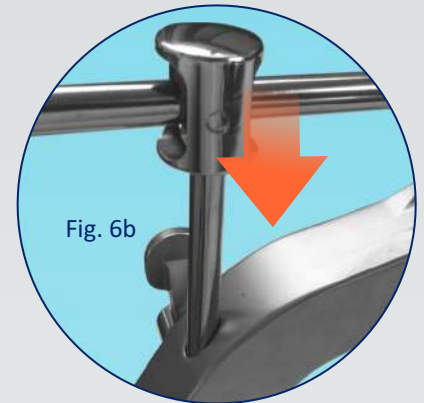

Fig. 6b
- ② Re-insert the knurled rod of the Articulated Rod into its housing (Fig. 6b).